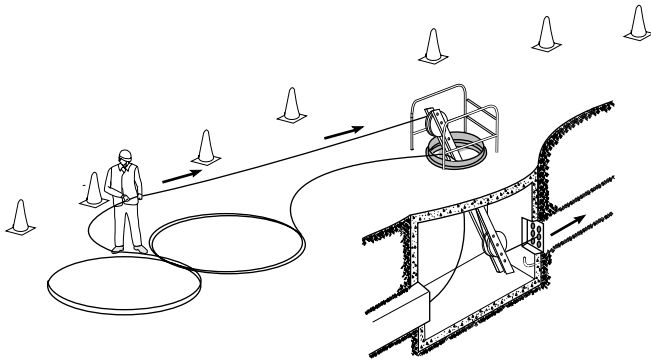

Figure 16 Completion of Backfeeding
**5.11** After the pulling eye is connected to the next section of the pulling line, feed the cable by hand back into the manhole and pull it to its next destination (Figure 16). The cable may be pulled directly from a “figure-eight” by a winch, provided the capstan or sheave used at the entry manhole ensures sufficient bend radius. Hand tending of cable paying off from “figure-eights” is normally required.